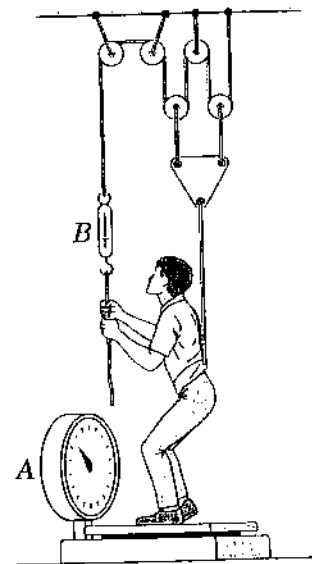

Fig. Q4
4. A former student of mechanics wishes to weigh himself but has access only to a scale A with capacity limited to 400 N and a small 80-N spring dynamometer B . With the rig shown in Fig. Q4 he discovers that when he exerts a pull on the rope so that B registers 76 N, the scale A reads 268 N. What is his correct weight?